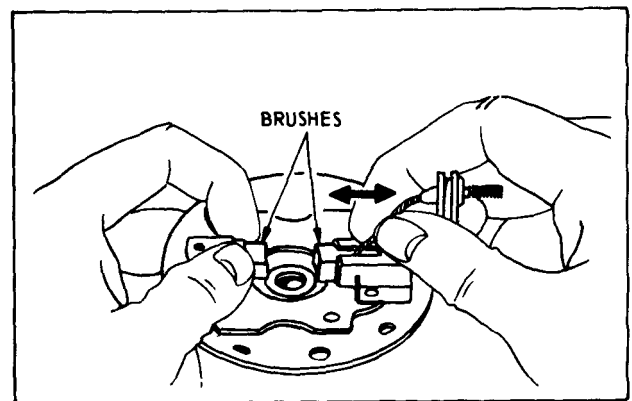

Fig. 58 - Checking Brushes
- F. Brushes sticking in brush holders or worn brushes. See Fig. 58.
- E. Brushes sticking, etc. See Fig. 58.
Before removing armature from end cap, check brushes for freedom of movement. If brushes are found to be sticking in their retainers, this must be corrected, or poor starter motor performance will result. Fig. 58. If brushes are worn to a length of 1/4" (6.4 mm) or less, the brushes should be replaced. Check brush springs for proper tension (sufficient force to keep brush in firm contact with commutator).